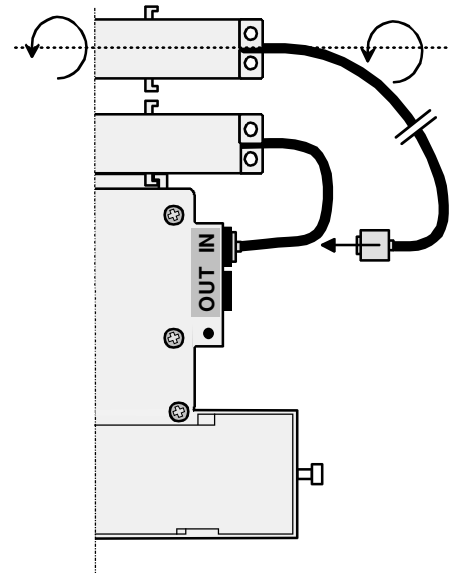

Fig. 6
- At bad reception push the antenna backwards from the fixing device and turn it round its own axle (Fig. 6). This will change the orientation of about 40°.